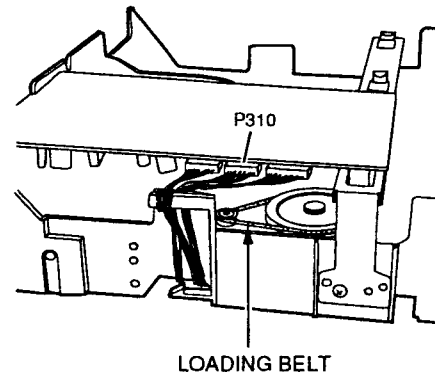

Fig. 3-8
- 2) Disconnect the P310 connector on the CD PCB as shown in Fig. 3-8 then unthread its cable on the TRAY BLOCK.